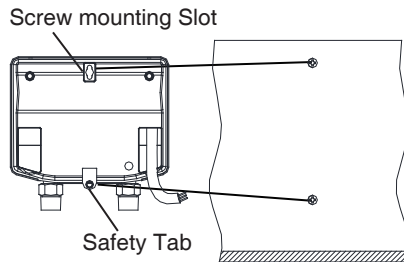

Fig 4
3. Ensure water heater is level and secure on wall. (Fig 4)